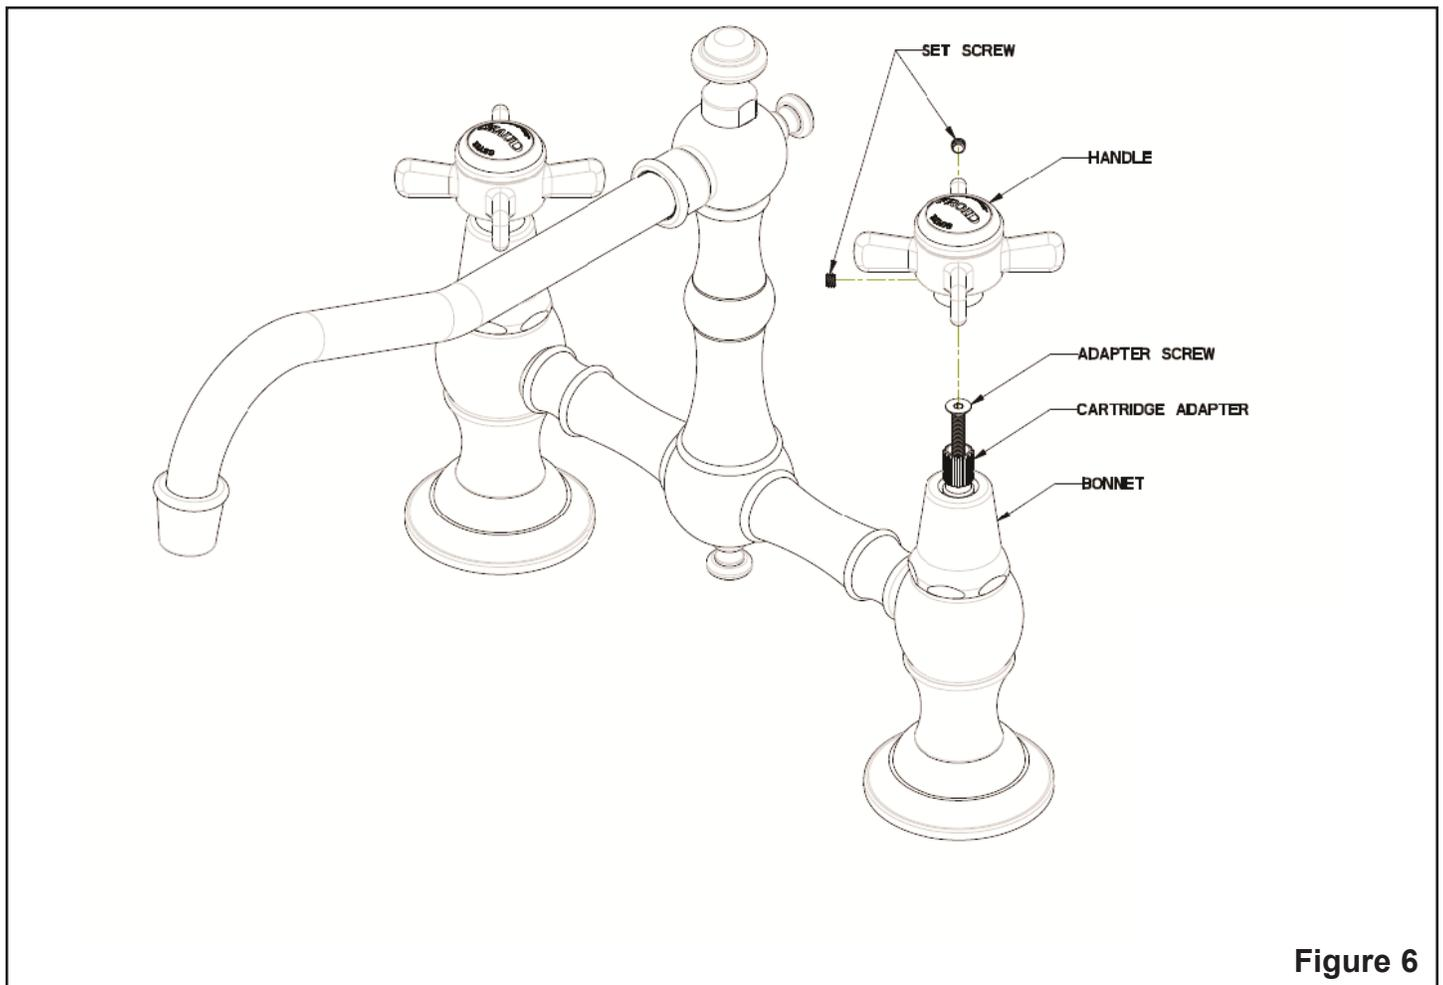

Figure 6
1. In **Figure 6**, ensure cartridges in full closed position and check HANDLE alignment. If the HANDLE is not correctly aligned, temporarily remove the HANDLE, loosen up (but do not completely remove) the SET SCREWS.